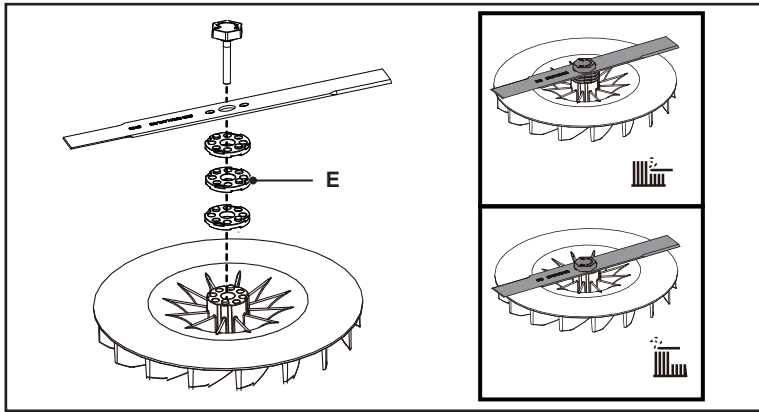

Fig. 6
3. Adjust the cutting height by adding or removing spacers (part E) as needed (Fig. 6).